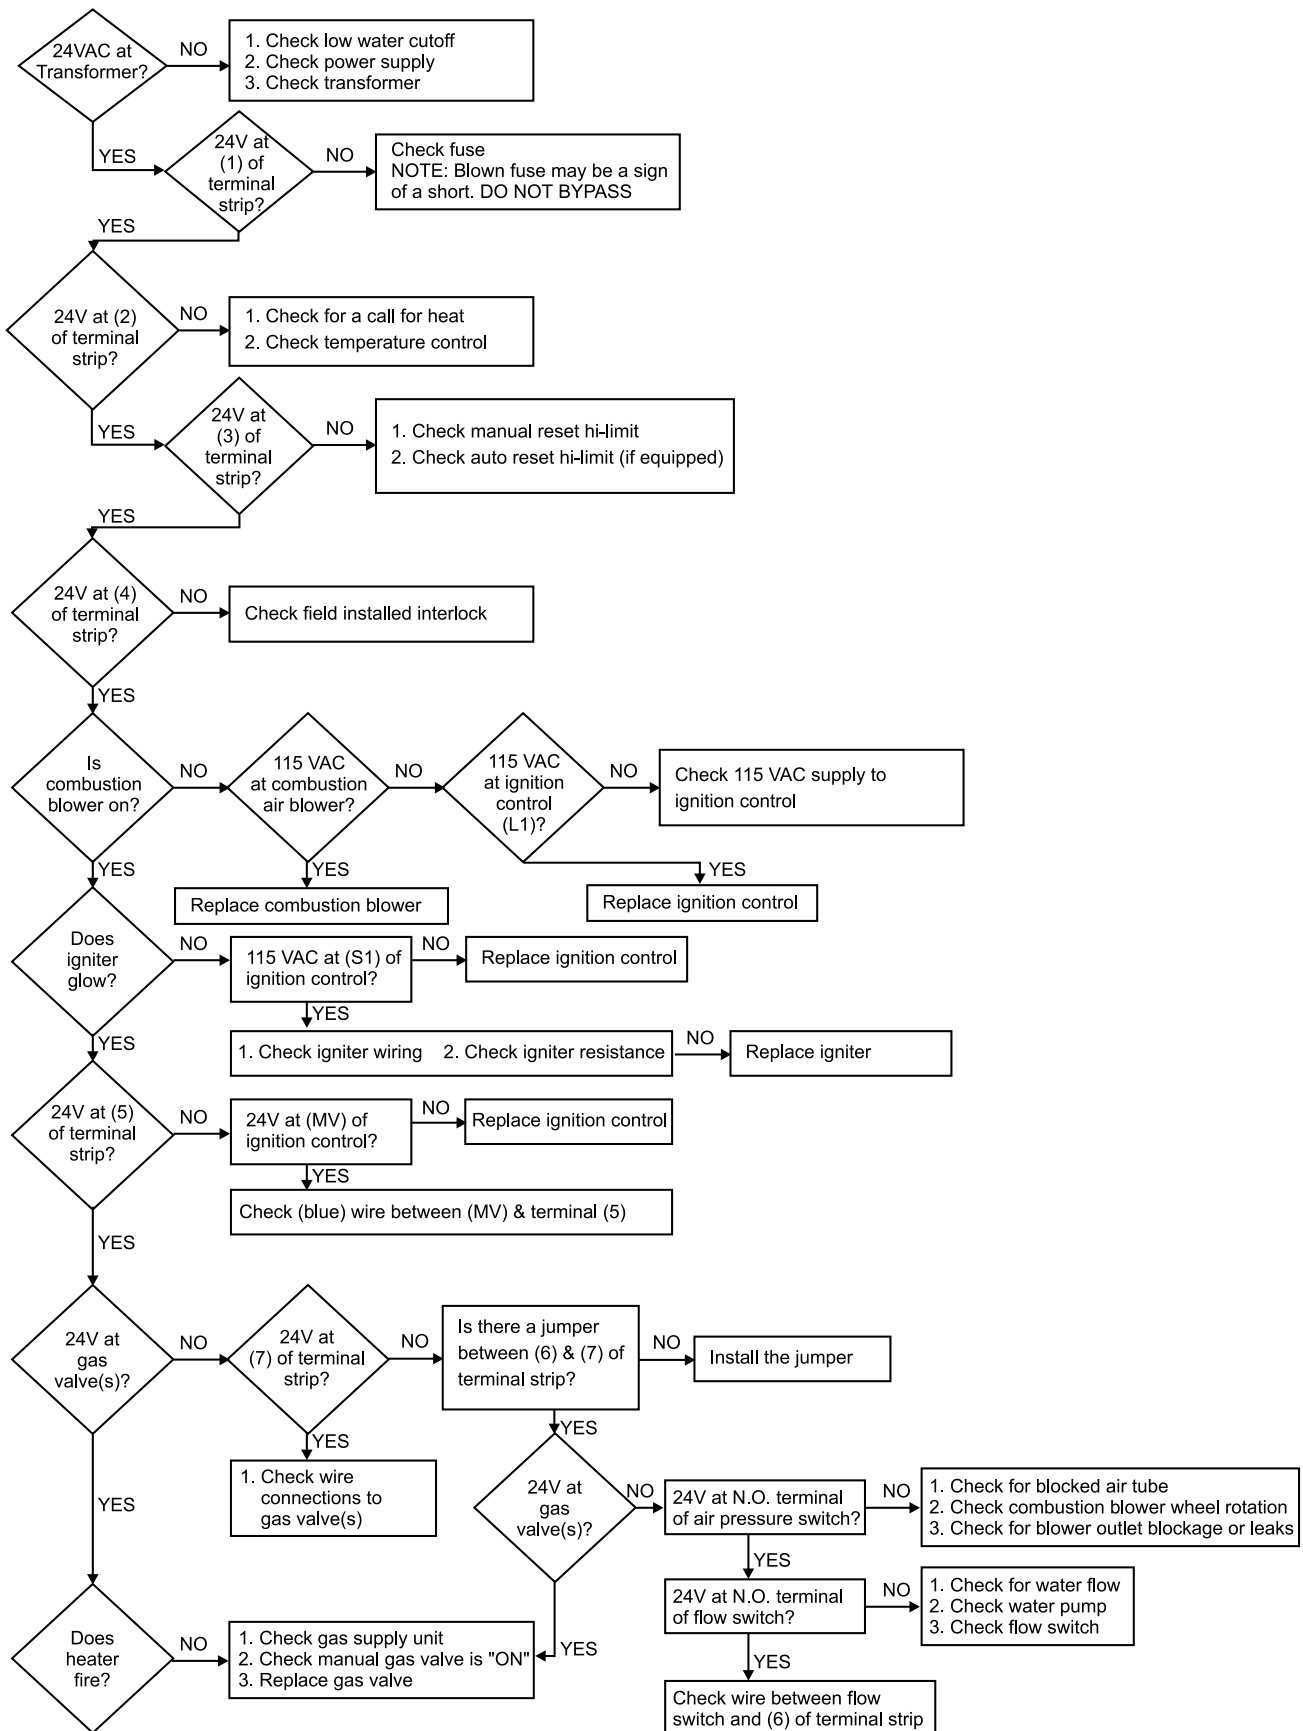

Figure 21. Troubleshooting Chart.
Some electrical components are wired in parallel, so it is necessary to troubleshoot in the order that they appear on the wiring diagram or the troubleshooting flow chart (see Figure 21).
4. Use the troubleshooting flow chart (see Figure 21) to determine what components and wiring should be tested first.